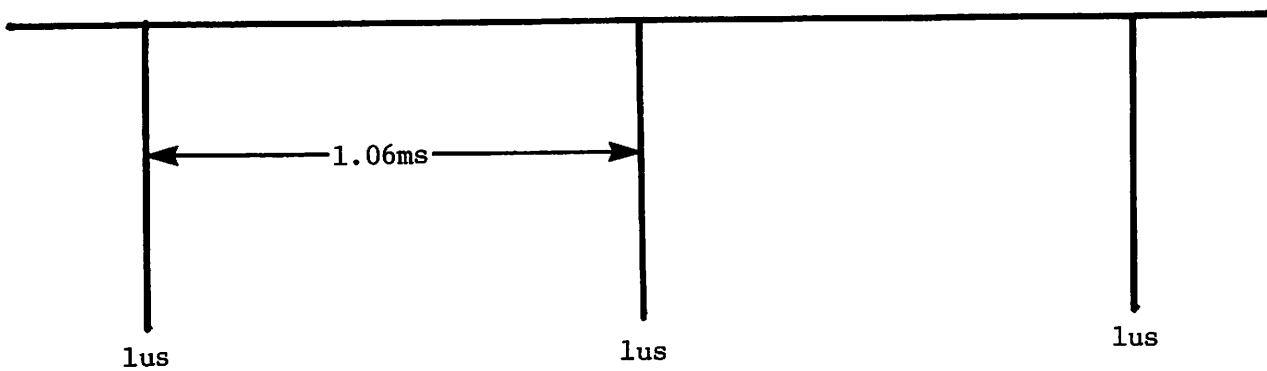

FIGURE 6-1 SPIN SPEED WAVEFORMS
5. When the READY indicator comes on, the unit should be up to speed. The pulse width of the Spin Speed Sensor pulses should be approximately 120 us (this is not critical and varies slightly with spindle speed). See Figure 6-1 "A". The width after shrinking is more important (Ref step 6).
6. Change the horizontal sensitivity to 1us per div. and connect channel B probe to P2-B07 of the Servo-Coarse PWA. The pulse should be shrunk to about 1 us in duration (100 ns min, 8.5 us max). See Figure 6-1 "B".